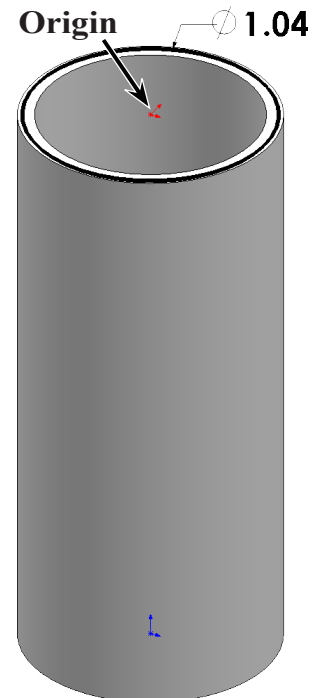

Fig. 6
Step 2. Click **Circle**  (S) on the Sketch toolbar.
Step 3. Sketch a **circle** starting at the **Origin** , **Fig. 6**.
Step 4. Click **Smart Dimension**  (S) on the Sketch toolbar.
Step 5. Dimension diameter **1.04**, **Fig. 6**.